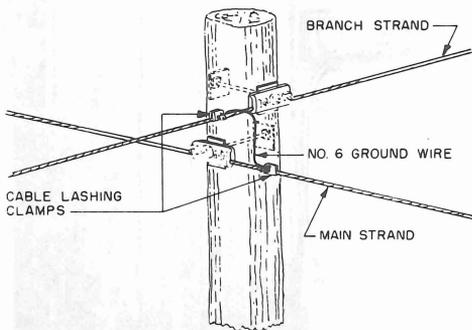

Fig. 24—Bonding Branch Strand to Main Strand
4.11 Branch strands shall be bonded to the main strand as shown in Fig. 24.